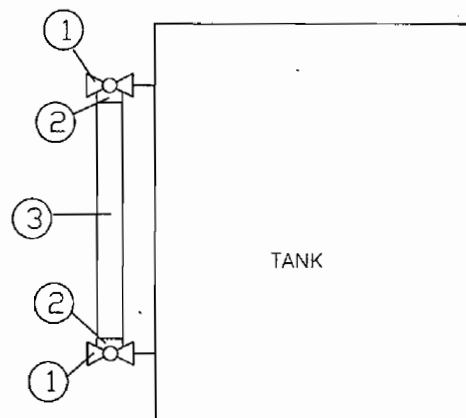

Figure 4-2. Tank Level Indicator (Sight Glass)
a. Replace (Refer to Figure 4-2)
- (1) Close valves at top and bottom of level indicator.
- (2) Open plug at base of level indicator to drain level indicator.
- (3) Unscrew gland nut at top and bottom.
- (4) Remove broken level indicator.
- (5) Remove O-rings from broken level indicator.
- (6) Install both gland nuts on new level indicator.
- (7) Install O-rings on either end of level indicator.
- (8) Install level indicator.
- (9) Tighten gland nuts.
- (10) Close plugs at base of level indicator.